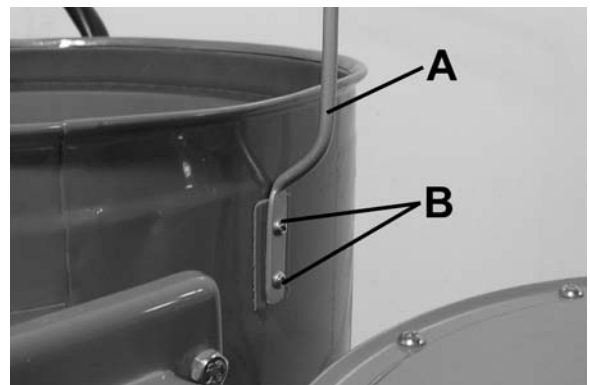

FIGURE 6
6. To install the dust bag hanger (A) Fig.6, screw it to the dust bag housing using 2 pan hd. screws (B) as shown.